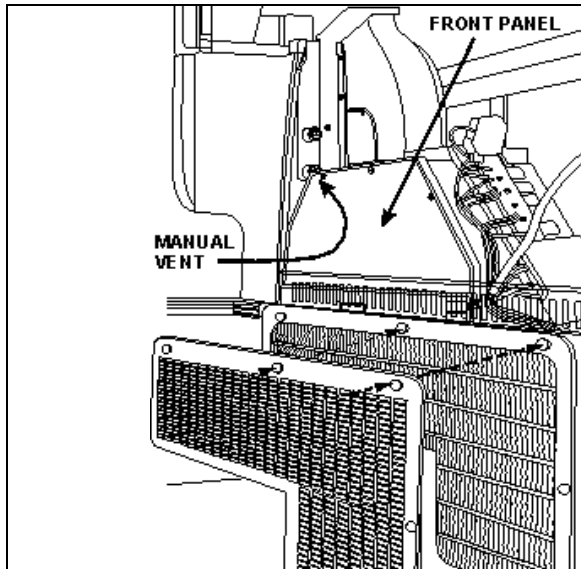
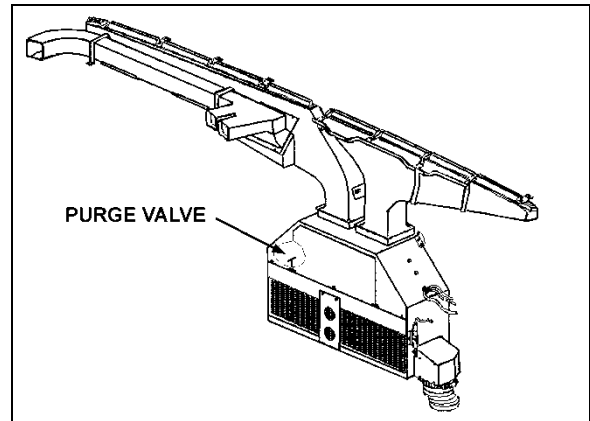
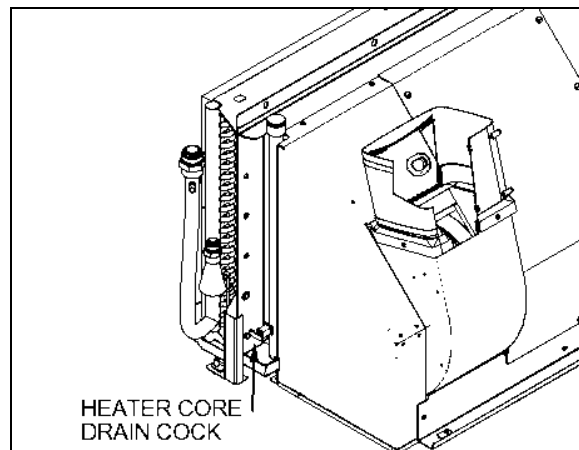

FIGURE 68: DRIVER'S HVAC/DEFROST UNIT
FIGURE 69: DRIVER'S UNIT AIR MIXING BOX 22171PV
FIGURE 74: HEATER CORE DRAIN COCK LOCATION
Fresh air is taken from behind the R.H. side headlights assembly (H3 series) or from a plenum underneath the front service compartment (X3 Series) and enters the mixing box through a ON/OFF damper. Return air is taken through the right console into the mixing box (Figure 69). Mixed air goes through cooling and heating coils, fans and discharge ducts.
4. From inside of vehicle, remove the two finishing panels in front of unit. Remove the three screws fixing the unit front panel. Open the purge valve located inside the driver's unit (Figure 69). If present, open the manual vent located inside the HVAC unit, on the driver's side (Figure 68) to ensure an efficient draining.
4. Open drain cock in bottom of heater core (Figure 74) you can unfasten a hose connection on top of heater core in order to allow air to enter while draining. The main heater core drain cock is located in the evaporator compartment. To access the valve, open baggage compartment door located in front of the evaporator compartment (L.H. side). Open the evaporator compartment access panel.
Locate the purge valve illustrated in Figure 69 & Figure 74, and open them momentarily until no air escapes from the lines. If present, open the manual vent located inside the HVAC unit, on the driver's side (Figure 68).